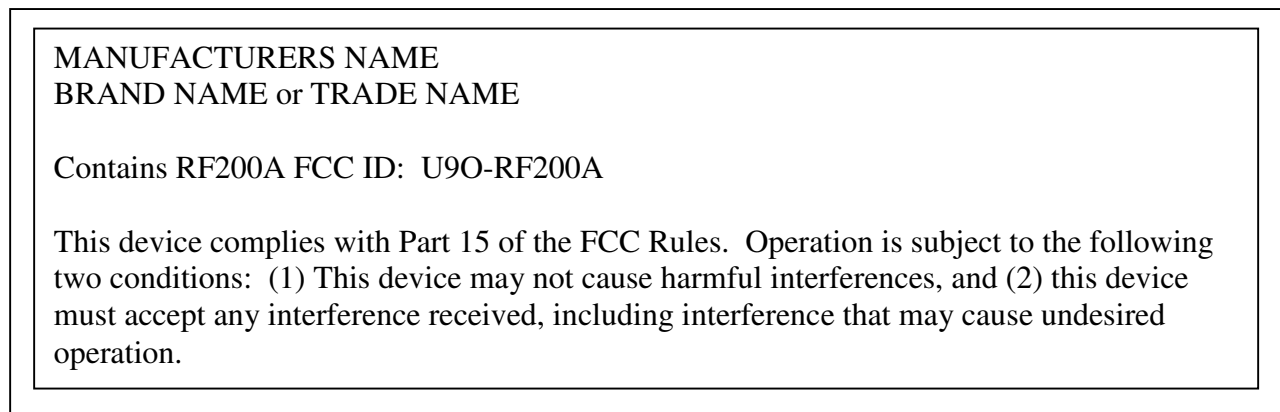

Figure 2.1 FCC Label
1. The system integrator must place an exterior label on the outside of the final product housing the RF200A Modules. Figure 2.1 below shows the contents that must be included in this label.
NOTICE: The OEM must make sure that FCC labeling requirements are met. This includes a clearly visible exterior label on the outside of the final product housing that displays the contents shown in Figure 2.1 below.